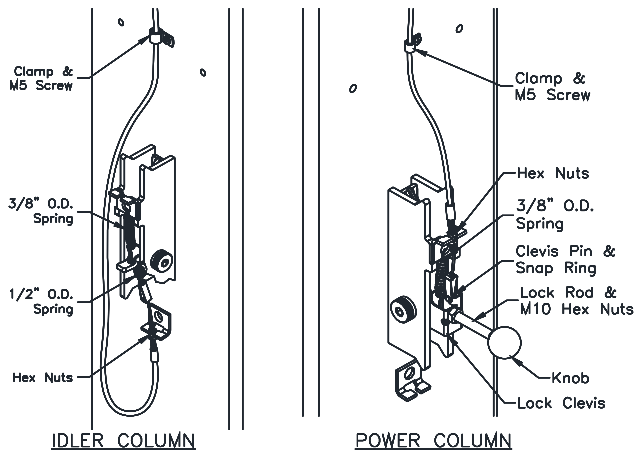

Fig. 9 – Lock Assembly
- 29) Attach Mechanical Lock Release Cable Assembly to each lock pawl. See **Fig. 9**.